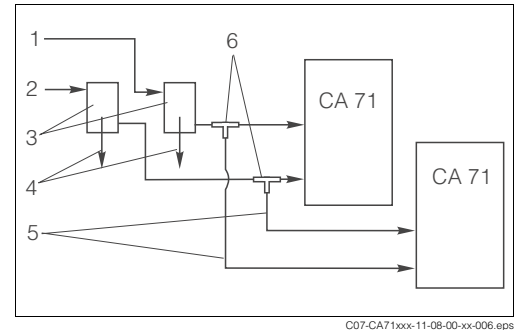

Fig. 11: Installation example
- Distance between the analyzers as short as possible: sampling line between T-piece and the second analyzer (Fig. 11, item 5) shorter than 1.5 m